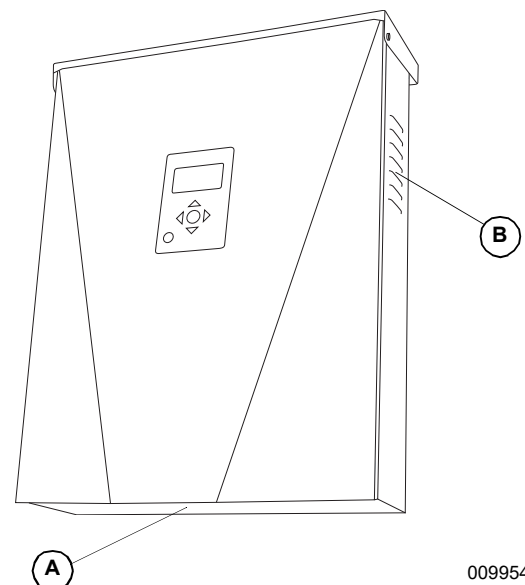

Figure 8-3. Intake Vent and Exhaust Vent
See Figure 8-3. Verify intake vent (A) and exhaust vent (B) are clear at all times.
See Figure 8-3. Clean intake filter (A) with a soft brush or vacuum cleaner. If air filter is damaged or becomes difficult to clean contact the nearest Independent Authorized Service Dealer (IASD) or Generac Customer Service at 1-888-GENERAC (1-888-436-3722) or visit www.generac.com for a replacement filter.